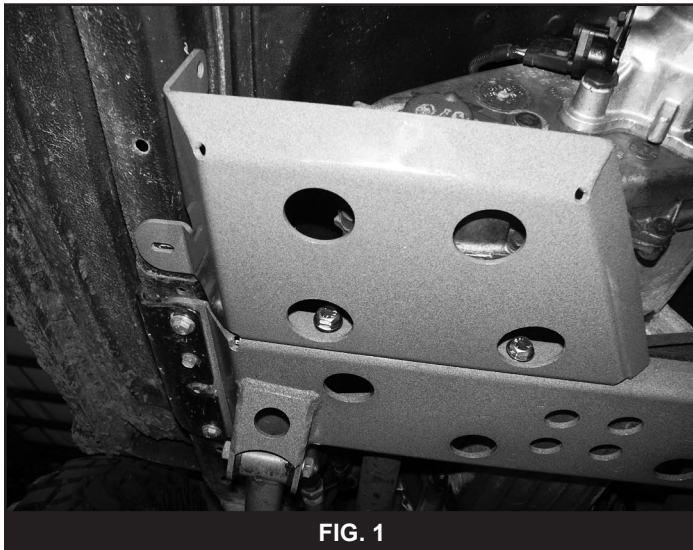

FIG. 1
2. Loosely attach the new skid plate (01376) to the back of the BDS XJ crossmember with 1/2" x 1-1/4" bolts and 1/2" SAE washers (BP 745) into the existing welded nut (Fig 1).